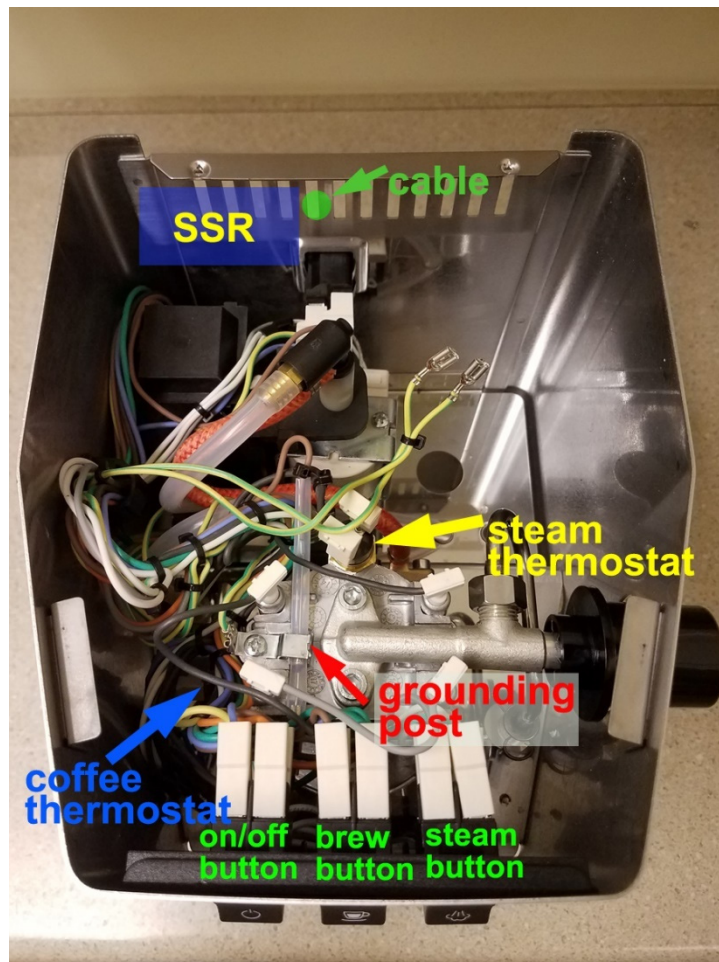

Figure 12. The top-view of the Gaggia Classic Pro (European model). The critical parts on the machine are highlighted by different colors.
- 3) **Identifying the critical parts and location.** In Figure 12, we highlighted some critical parts on the coffee machine. The coffee thermostat (pointed by the blue arrow) is installed at the bottom-left side of the boiler, which is hard to see in this picture. The steam thermostat (pointed by the yellow arrow) is located on the top of the boiler. There is a grounding post on the top of the boiler, which is pointed by the red arrow. On the front panel, there are three buttons (switches) on which we will tap some of the wires from KIT-GGP. The solid-state relay (SSR) will be installed on the top-left corner of the back panel, indicated by the blue color shaded area. The green shaded dot indicates where the wires should go through.
- 3) **Unplug the black wires from the steam thermostat to the SSR.** Locate the steam thermostat on the top of the boiler (see Figure 12 or Figure 15). Those two wires attached to this thermostat are both black, one of them should be connected to the other red wire on the SSR. Unplug two black wires from the steam thermostat (pointed by yellow arrows in Figure 18(a)). These two connectors are randomly marked as S1 and S2 in Figure 18(b).